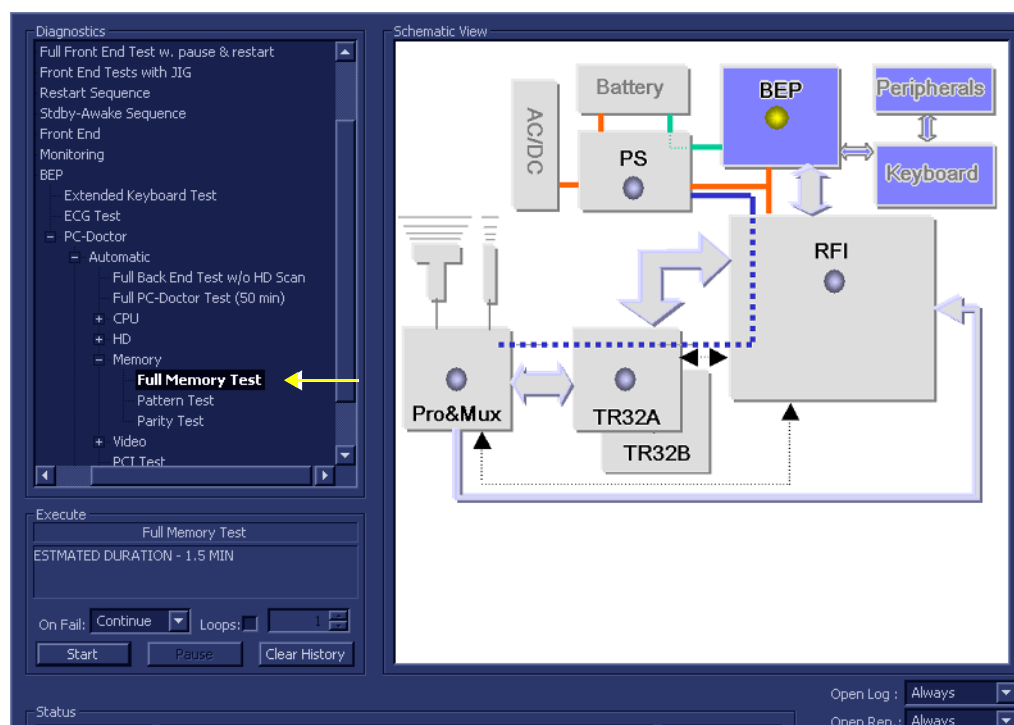

Figure 7-88 Full Memory Test
- 1.) In the *Diagnostic Test* window, trackball to **Full Memory Test** in the list of *Memory* tests available for selection from the Diagnostic Test Tree (see Figure 7-88 below) and press **Set**. The Test name is displayed under *Execute*; the relevant system components to be tested are highlighted light blue in the Schematic View (BEP, Peripherals, Keyboard), as shown below:
- 1.) In the *Diagnostic Test* window, trackball to **Full Video Test** in the list of *Video* tests available for selection from the Diagnostic Test Tree (see Figure 7-88 below) and press **Set**. The Test name is displayed under *Execute*; the relevant system components to be tested are highlighted light blue in the Schematic View (BEP, Peripherals, Keyboard), as shown below: